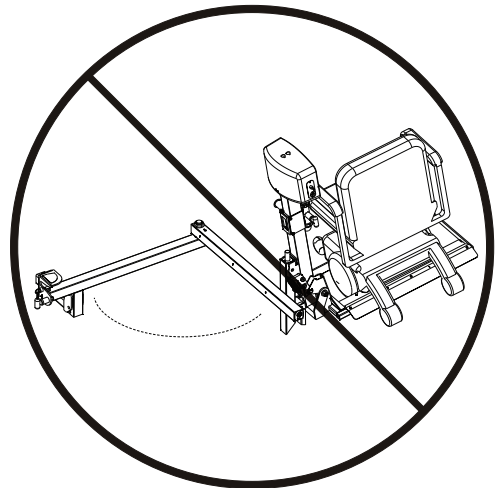

Figure 7-7
**NEVER** open the Swing-Away with the mobility device on the lift. Opening the Swing-Away with the mobility device on the lift will damage the Swing-Away and the lift and will potentially damage the vehicle and the mobility device. Any of these actions will VOID the warranty. *See Figure 7-7.*